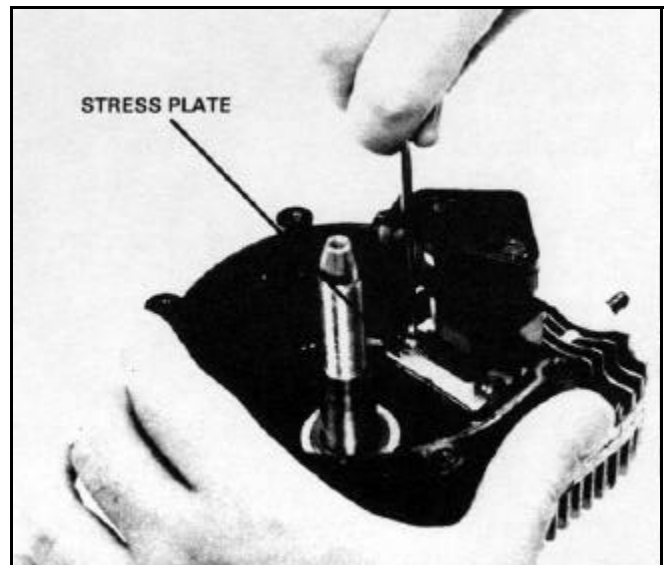

Figure 222
2. Remove the carburetor and stress plate screws. Scrape excess gasket material away from the carburetor body with a putty knife or a wooden dowel (Figure 222).